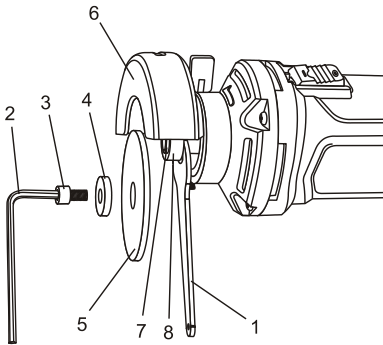

Fig. 3
1. Place the spindle wrench (1) on the flat portion of the spindle (Fig. 3).
2. Insert the 5 mm hex key (2) into the hex head screw (3).
3. While holding the spindle wrench, turn the hex screw counter clockwise to remove both the hex head screw and the flange washer (4).
4. Slide the cutting disc (5) into the guard (6) and place it over the spindle shoulder (7) so it rests flat against the large spindle flange (8).